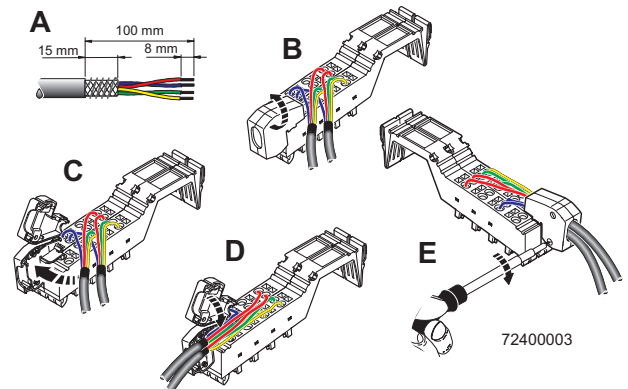

Fig. 4 Wiring of the R-IB IL 24 FLM-PAC and R-IB IL 24 SEG/F-D-PAC terminals
Stripping the Outer Cable Sheath and Cables (Fig. 4, A)
- Open the shield connection (Fig. 4, B).
- Insert the cable (Fig. 4, C).
- Close the shield connection (Fig. 4, D).
- Tighten the screws on the shield connection with a screwdriver (Fig. 4, E).